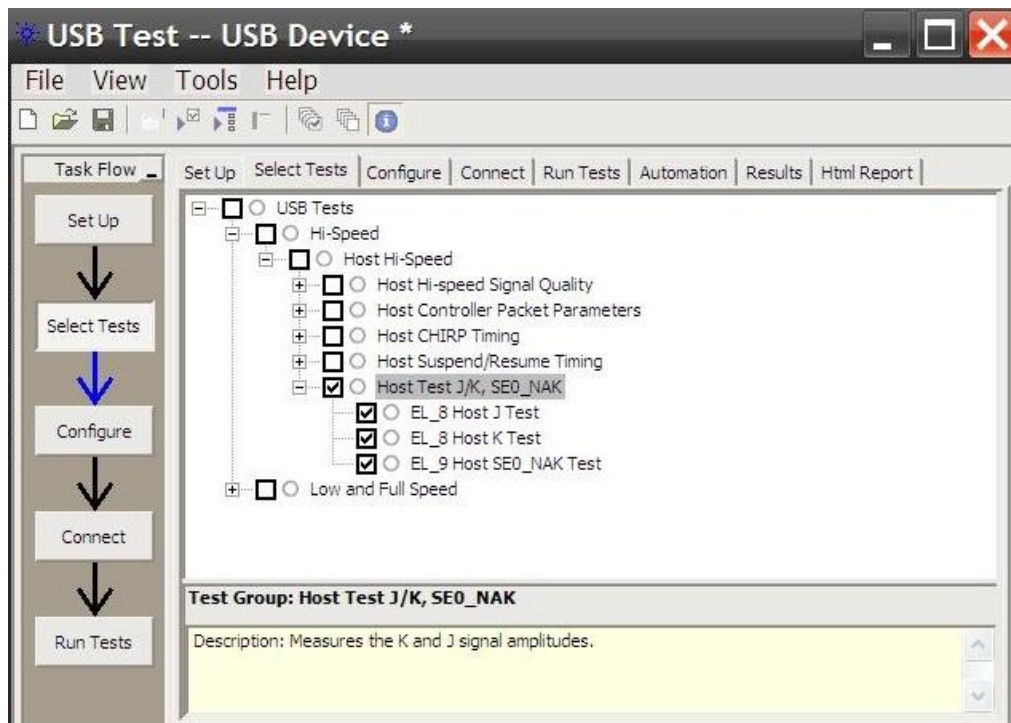

Figure 79. Host Test_J/K, SE0_NAK Test
1. Select the test items in the USB Automated Test software on the oscilloscope as shown in Figure 79 and make sure you set the Test Type configuration option to Hi-Speed Near End before running the test.